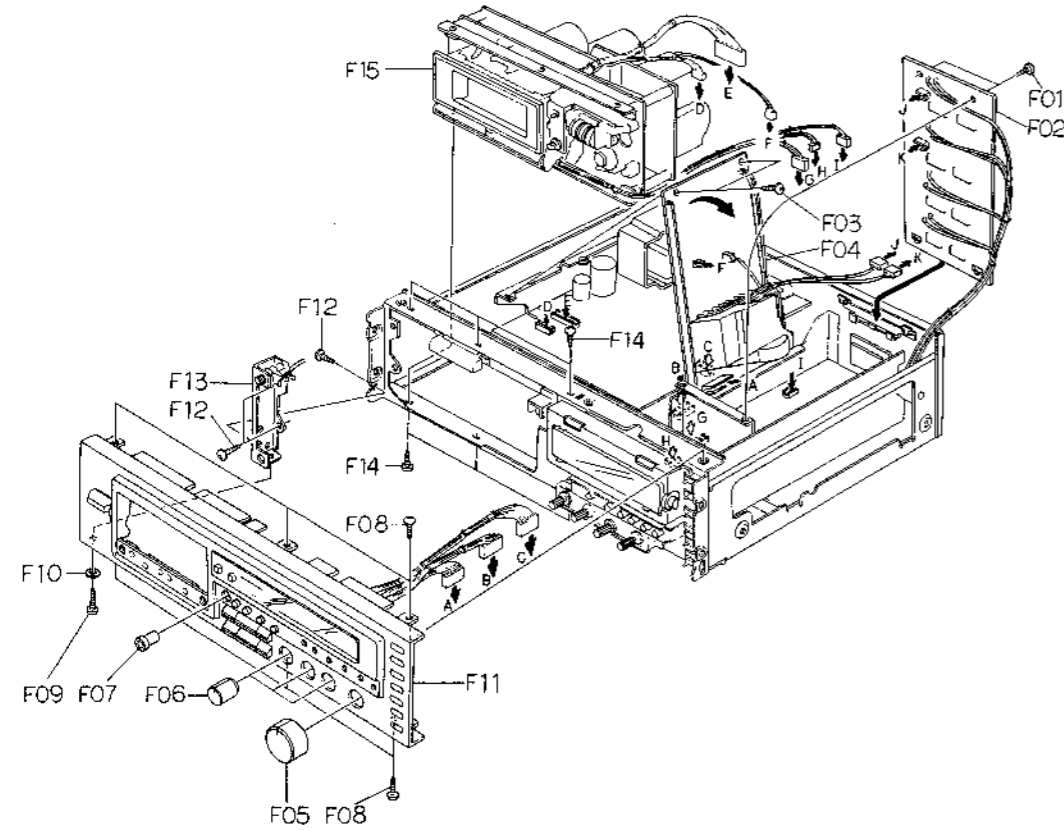

Fig. 2.2
Refer to Fig. 2.2.
- (1) Refer to Fig. 2.2. Remove Front Panel Ass'y referring to item 2.5.
- (2) Remove F01, then disassemble F02 (FL Indicator Ass'y including 1 connector).
- (3) Remove F03 (FL Indicator Hold Plate) and F04 (Indicator P.C.B. Plate), then disassemble F05 (FL Indicator Holder L), F06 (FL Indicator Holder R) and F07 (FL Indicator P.C.B. Ass'y).
- (2) Remove 1 connector and the wires connected by wrapping from F09 (Auto Level P.C.B. Ass'y).
- (3) Remove F08, then disassemble F09 (Auto Level P.C.B. Ass'y) by releasing the self-interlocking pin of the P.C.B. supporters.
- (2) Pull out F23 (Function Switch Knob Ass'y).
- (3) Remove the wires connected by wrapping from F26 (Switch P.C.B. Ass'y).
- (4) Remove F24 and F25, then disassemble F26 (Switch P.C.B. Ass'y).
- (2) Remove F33, then disassemble F34 (Bias Cal. Ass'y).
- (3) Remove F35, then disassemble F36 (Bias Cal. P.C.B. Ass'y).
- (2) Remove F37, then disassemble F38 (Power Switch Knob).
- (3) Remove F39, then disassemble F40 (Power Switch Holder Ass'y).
- (4) Remove F41, then disassemble F42 (Power Switch).
- (2) Remove F43, then disassemble F44 (Insulator) and F45 (Lamp P.C.B. B Ass'y).
- (3) Remove F46 (Lamp P.C.B. C Ass'y) by releasing the self-interlocking pin of the Reflector.
- (2) Remove F01, F02, F03 and F04, then disassemble F05 (Control Button Ass'y).
- (3) Remove F06, then disassemble F07 (Control Switch P.C.B. Ass'y).
- (4) Remove F08, then disassemble F09 (Calibration Indicator P.C.B. Ass'y).
- (1) Refer to Fig. 2.2. Remove Mechanism Ass'y referring to item 2.7.
- (2) Press the Eject Button to open the Cassette Case Ass'y.
- (3) Remove F01 and F02, then disassemble F03 (Cassette Case Holder L Ass'y) by releasing the self-interlocking pin of the Damper Lock Arm and F04 (Cassette Case Ass'y).
- (4) Remove F05, then disassemble F06 (Cover Plate Ass'y).
- (2) Remove F07, then disassemble F08 (Tape Counter Ass'y).
- (3) Remove F09, then disassemble F10 (Pitch Control Holder Ass'y).
- (4) Remove F11, then disassemble F12 (Memory Switch).
- (5) Remove F13, then disassemble F14 (Pitch Control Volume).
- (2) Remove F01 and F02, then disassemble F03 (Flywheel Holder Ass'y) and F08 (Capstan Belt).
- (3) Remove F04, then disassemble F05 (Capstan Motor Ass'y).
- (4) Remove F06, then disassemble F07 (Speed Cal. P.C.B. Ass'y).